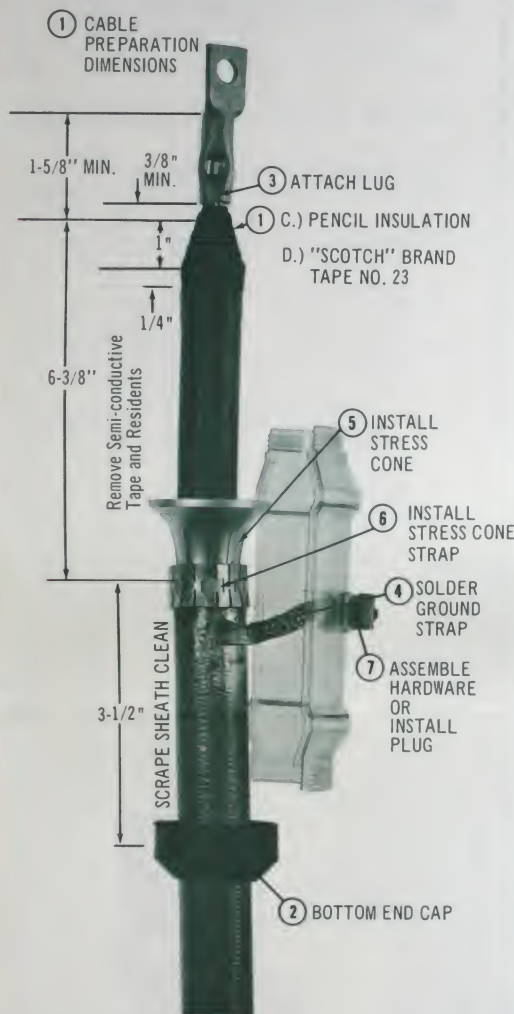

FIG. 1
- ① **CABLE PREPARATION** - Use exact dimensions as shown at left of Fig. 1
(c) **PENCIL INSULATION** on conductor 1" as shown in Fig. 1.
NOTE: If a conductor lug or terminal pin is NOT used at the dimensions shown in Fig. 1, the conductor strands must be soldered completely closed for a minimum distance of 2 inches above the cable insulation.